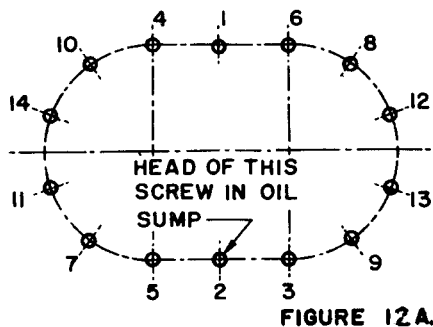

FIGURE 12A.
12. Install all housing to cylinder screws including the three (3) longer screws behind the housing mounting foot, see arrows. Torque all fourteen (14) screws per table on page 4, this section. When tightening and torquing, follow the pattern shown in Figure 12A. See Figure 1 in "Disassembly" for screws on reverse side of the cylinder flange. Lubricate bearings liberally and install bearing cover and gasket. Install "O" ring and oil sump cover.